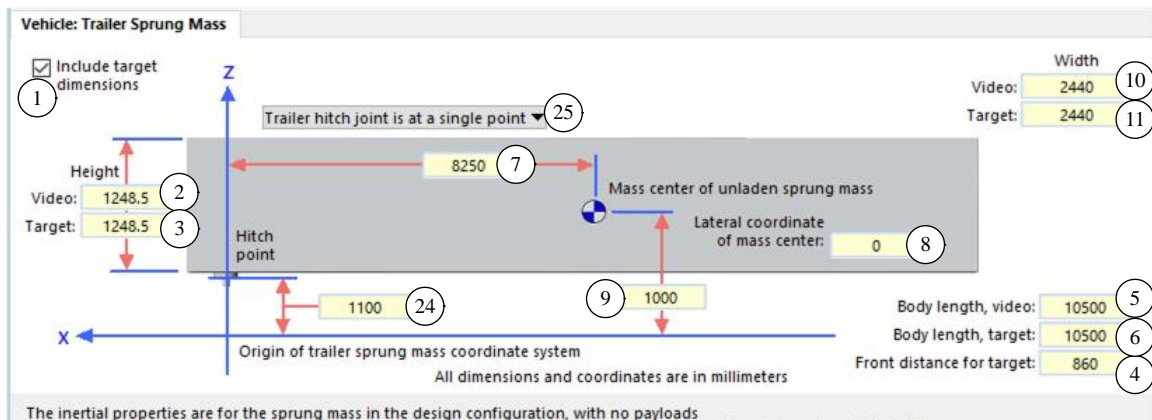

Figure 17. Part of Trailer Sprung Mass screen showing hitch height.
First, the trailer screen includes an extra parameter (24) to specify the height of the leading hitch point relative to the origin of this sprung mass (Figure 17), with keyword = `H_H_FRONT`.